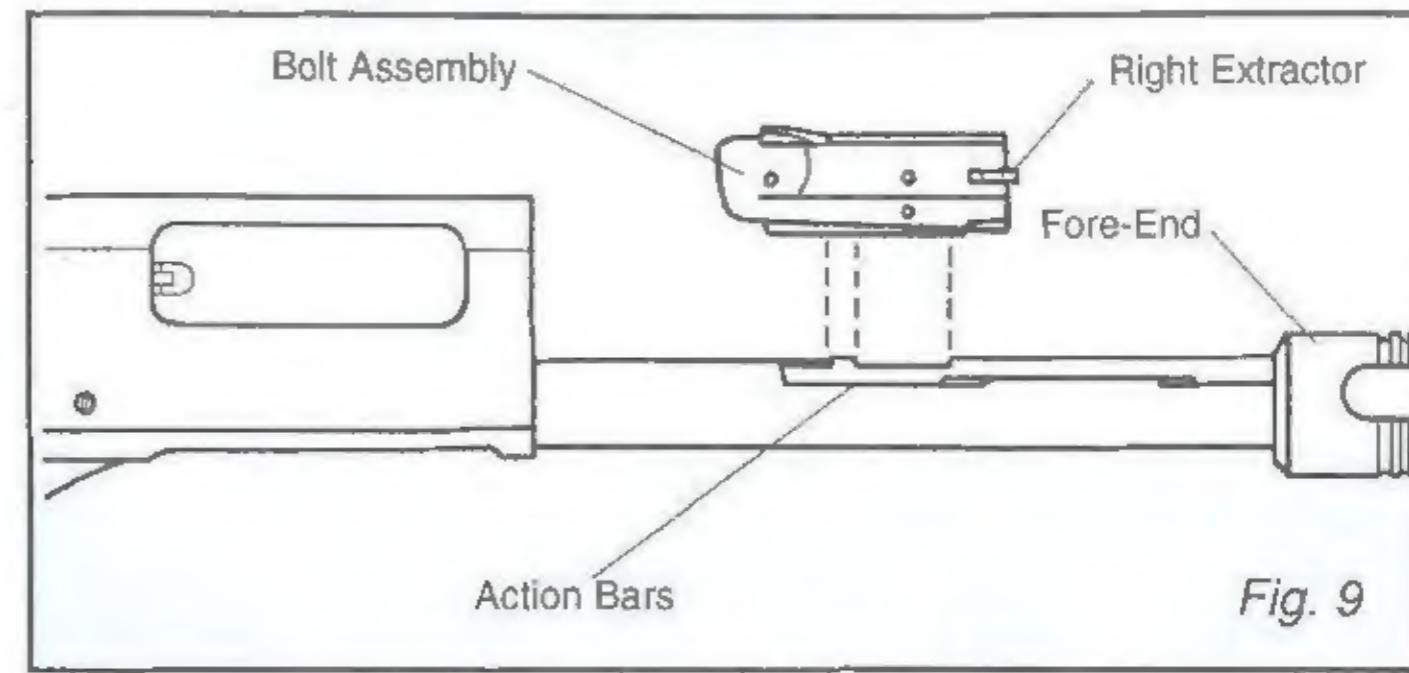

Fig. 9
- Slide the fore-end forward, and remove from the magazine tube. See Fig. 9.
- Place the fore-end assembly on the magazine tube. See Fig. 9.